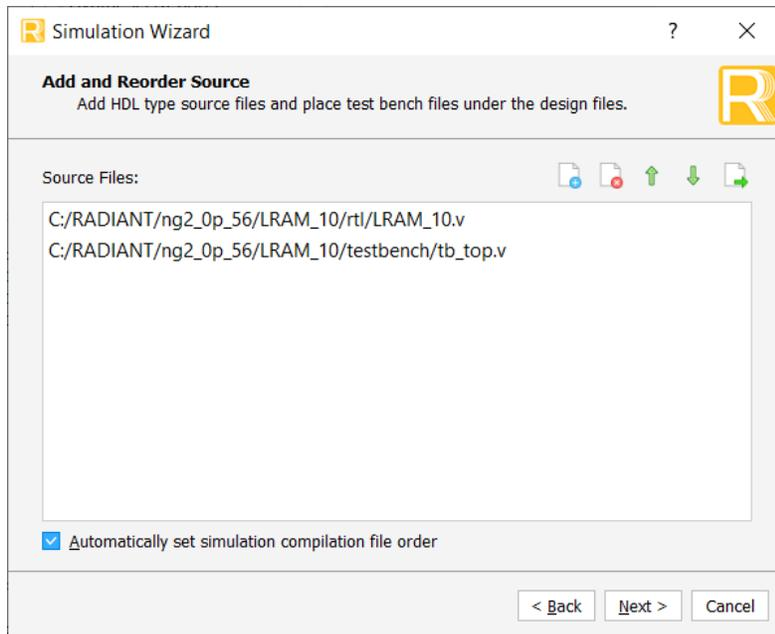

Figure 4.6. Adding File from Testbench Directory
4. Add *tb_top.v* file from *testbench* directory as shown in Figure 4.6.
IP Generation and Evaluation	<ul style="list-style-type: none">Updated source file in Running Functional Simulation procedure to tb_top.v.Updated Figure 4.6. Adding File from Testbench Directory.